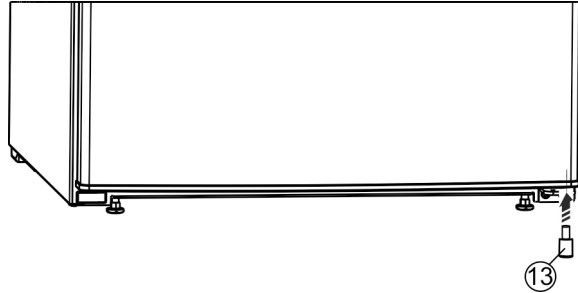

Fig. 9
- Insert the spacer *Fig. 9 (13)* back under the right-hand side of the door, as this is important for the stability of the appliance.